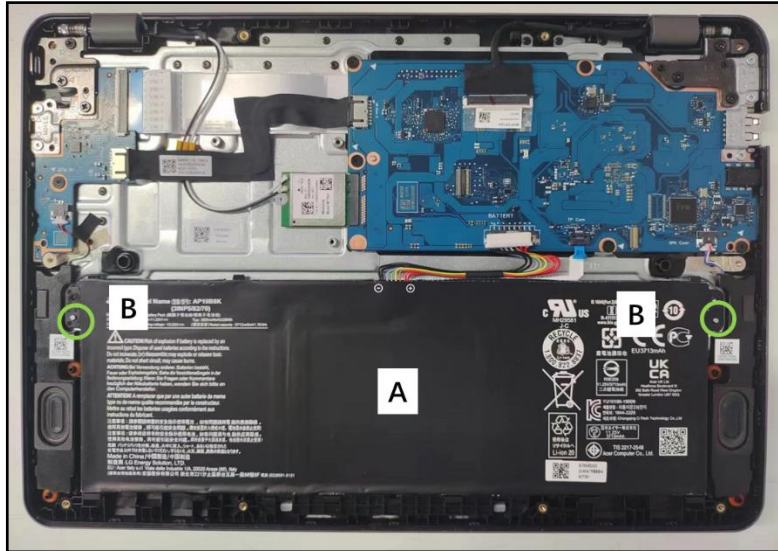

Figure 3-113. Replacing the Battery Pack
1. By aligning with the guide pins (A), place the battery pack (B) to its compartment on the system (Figure 3-113).